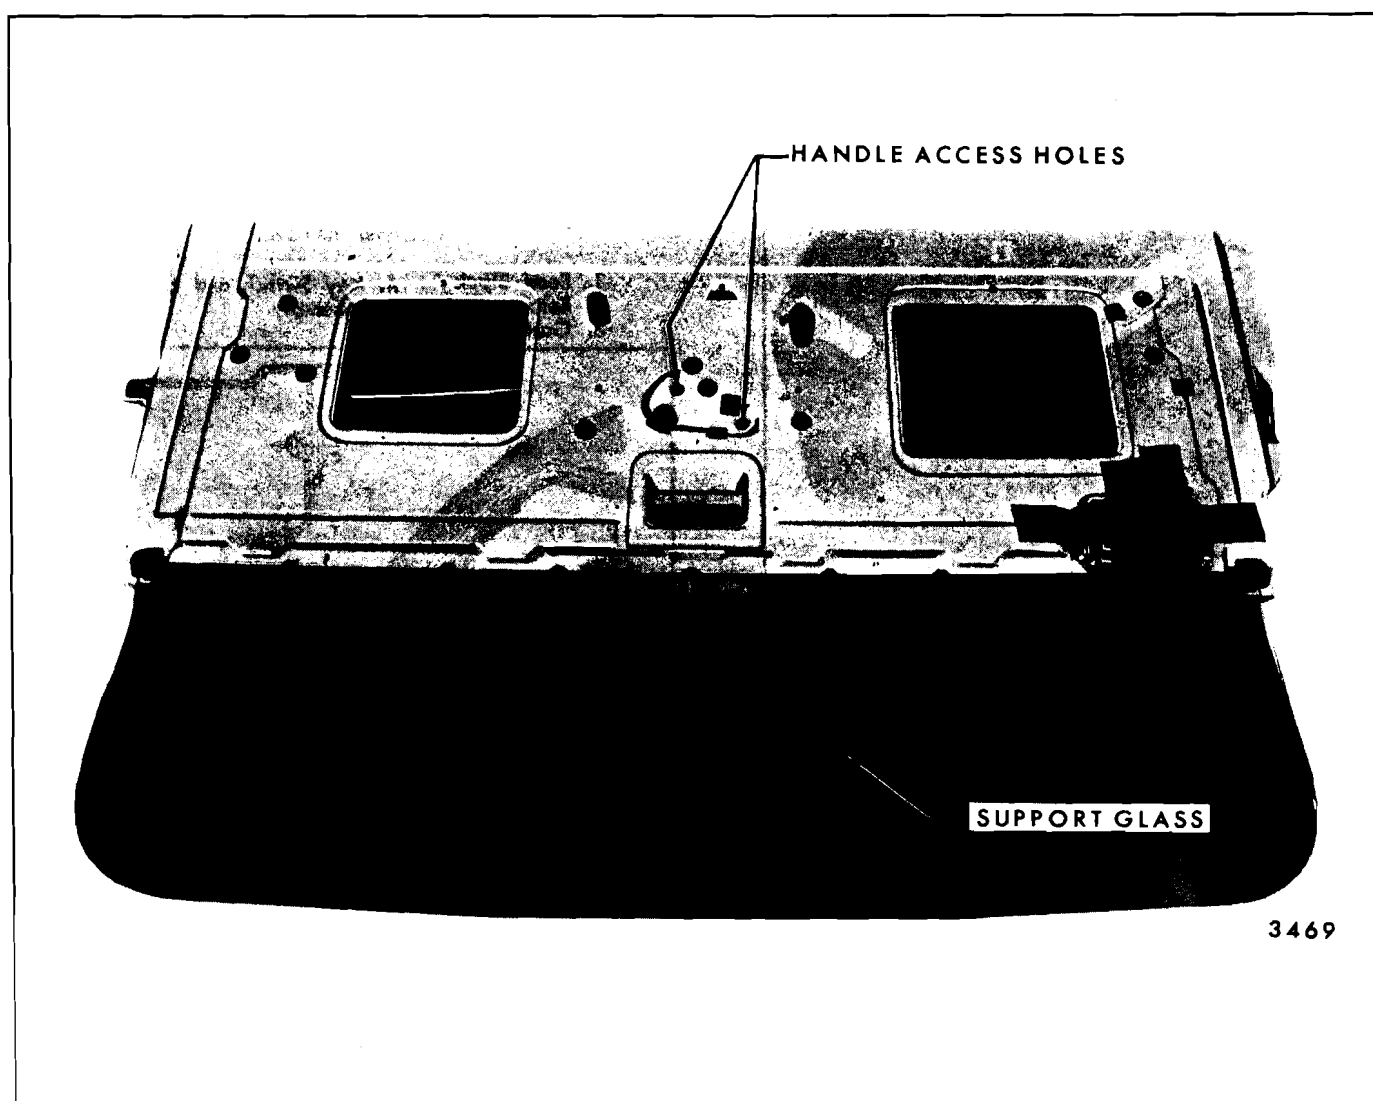

Fig. 9-16—Tail Gate Window Manual Outside Handle Removal
3. Position tail gate window so that outside handle (manual) attaching nuts are accessible through gate inner panel and window regulator access holes (Fig. 9-16).